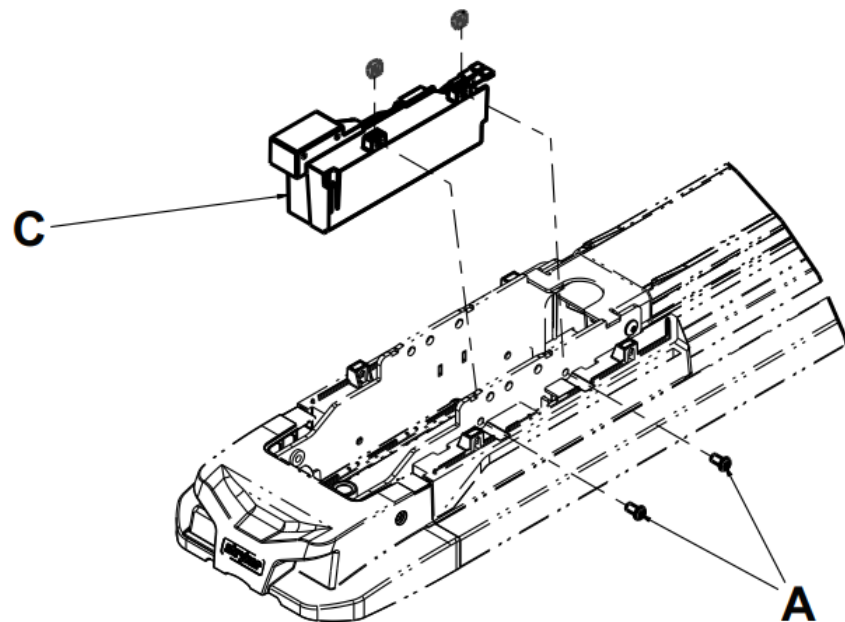

Figure 4 – Replacing the inductive primary board
4. Using a T27 Torx driver, remove the two screws (A) that secure the inductive charging assembly (C) to the foot end weldment (Figure 4). Save the screws.